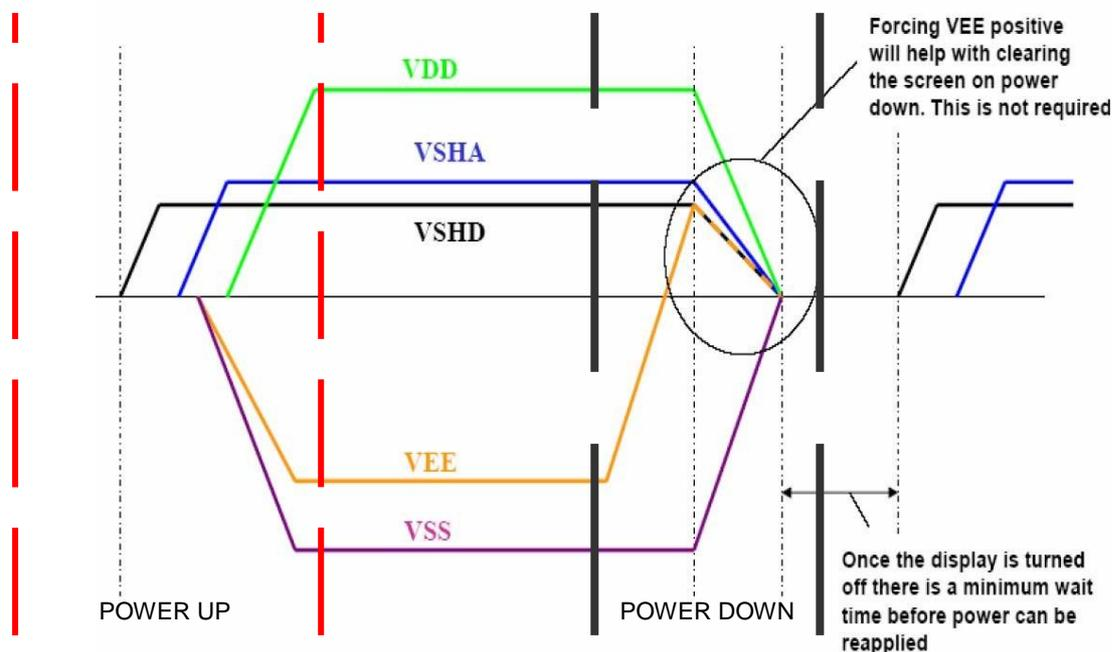

Figure 10: TFT Power Supply Sequence waveform of a typical panel ON-OFF operation cycle
Figure 10 is a typical TFT's power supply sequence during a typical panel ON/OFF operation cycle.
2. Then follow the power sequence as shown in Figure 10.